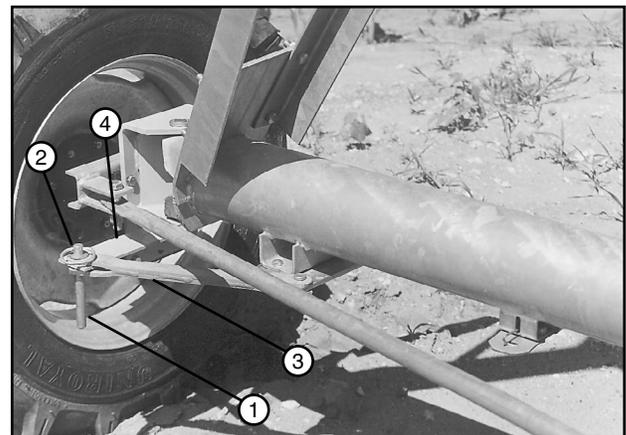

Figure 37-3 1. Lynch Pin
4. Remove lynch pin from each torque pin, then remove each torque pin and disconnect the tow link bars from the gearbox mount steering arms. Install each torque pin back in the steering arm hole and secure with lynch pin. See figure 37-3.